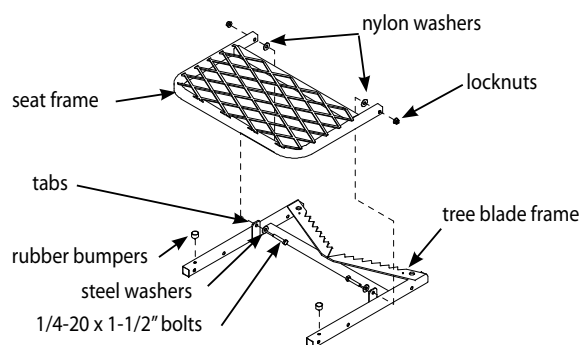

Figure 3
4. Attach the seat frame (1ML15) to the tabs on the tree blade frame using (2) provided 1/4-20 x 1-1/2" bolts, locknuts, steel washers and nylon washers. **SEE FIGURE 3.** Attach the (2) provided rubber bumper stops to the top side of tree blade frame by pressing into provided holes. **SEE FIGURE 3.**